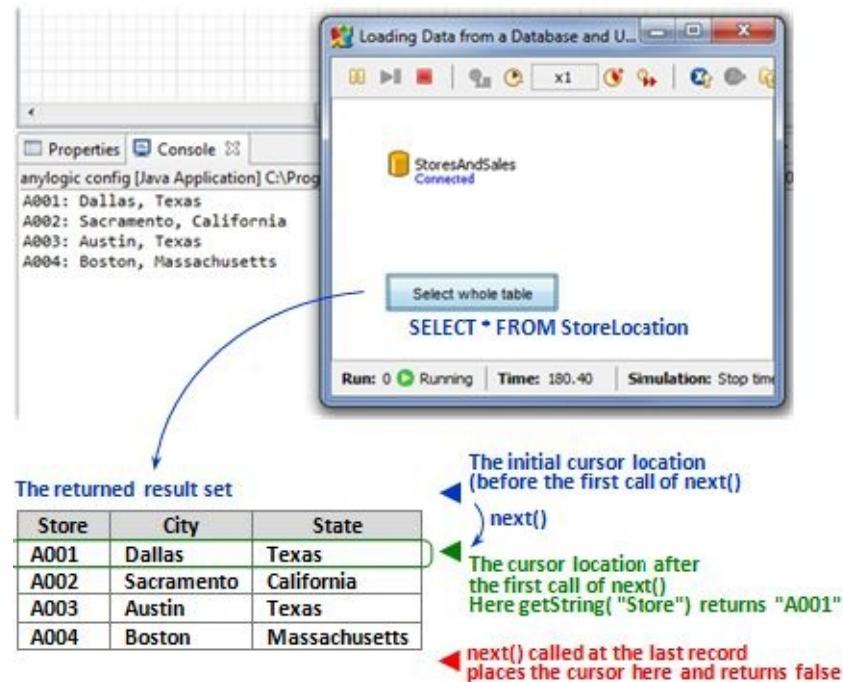

Figure 11.19 Iterating through the result set
1. Create an MS Access database with two tables as shown in Figure 11.19. Save it in the file "Stores and Sales.accdb".
6. Run the model. Once the model is running, the info string under the database name should read "Connected" (see Figure 11.19).